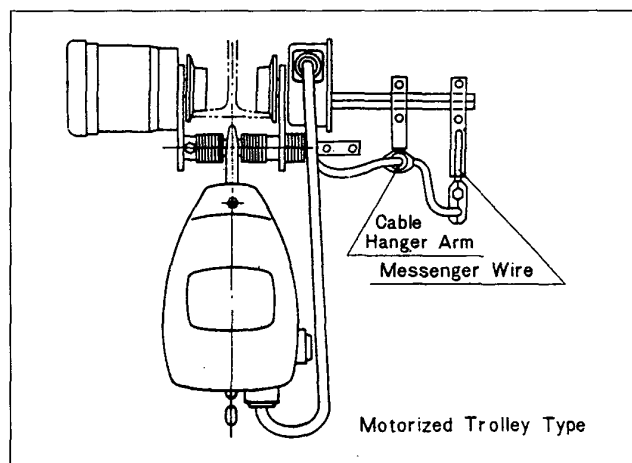

Fig. 9
- (1) Provide a messenger wire (3-6mm dia. wire) along the beam and hang the power supply cable without twisting it through the cable hangers.
- (2) Install the messenger wire as shown in Fig. 9.